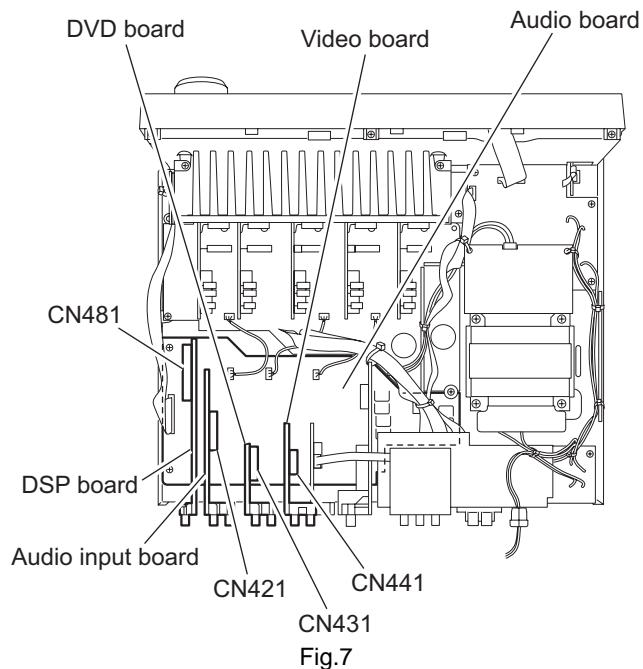

Fig.7
2.5 Removing the DSP board, audio input board, DVD board and video board (See Fig.7)